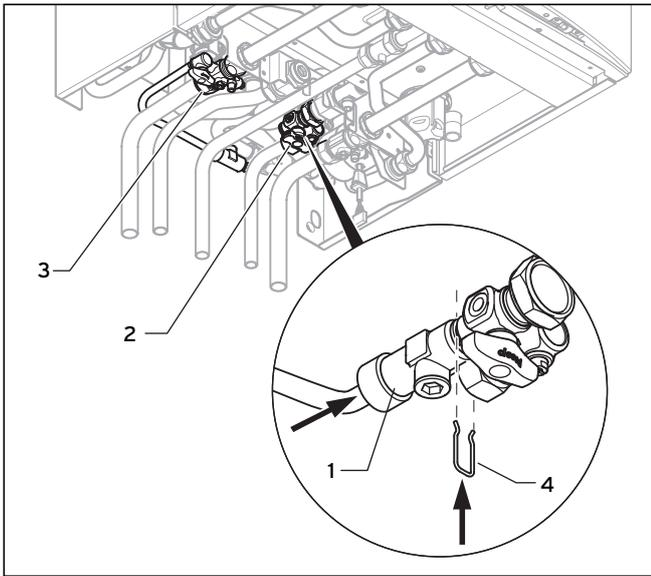

Fig. 6.2 Filling device
- Push the double check (1) of the filling loop into the cold water stop valve (2) and secure the double check valve (1) with the spring clip (4).
- First open the stop valve to perform the filling (3).
- Open the cold water stop valve (2) so that the water flows into the heating system. Fill the heating system as described in **Section 6.4.3**.
- After filling close both stop valves and remove the filling loop by pulling the double check valve (1) off the cold water stop valve (2) (see **Fig. 6.2**).